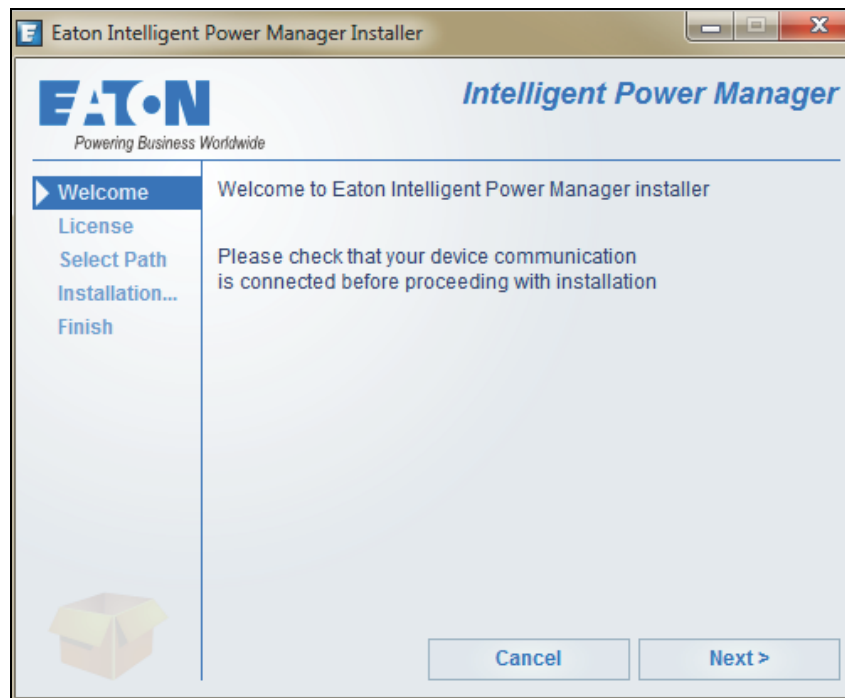

Figure 2. Welcome Screen
2. Observe the prompt and verify that the communication device is connected. Click **Next** (see Figure 2). The Login screen displays.